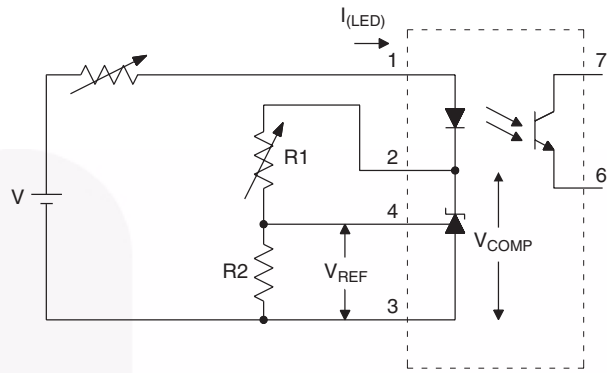

Figure 2. $\Delta V_{REF} / \Delta V_{COMP}$ Test Circuit
3. The dynamic impedance is defined as |Z_{OUT}| = ΔV_{COMP}/ΔI_{LED}. When the device is operating with two external resistors (see Figure 2), the total dynamic impedance of the circuit is given by: